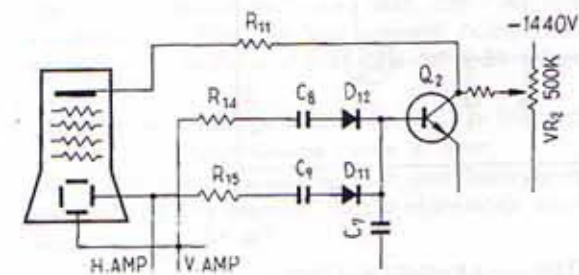

Fig. 8
6.5 SPOT KILLER CIRCUIT (Fig. 8)
Fig. 8 shows the simplified circuit diagram. The switching transistor Q2, is connected with its base to both the vertical and horizontal deflection plates through diodes D11, D12, capacitors C8, C9 (which isolate the transistor from the high DC voltage at the deflection plates) and through resistors R14, R15. The